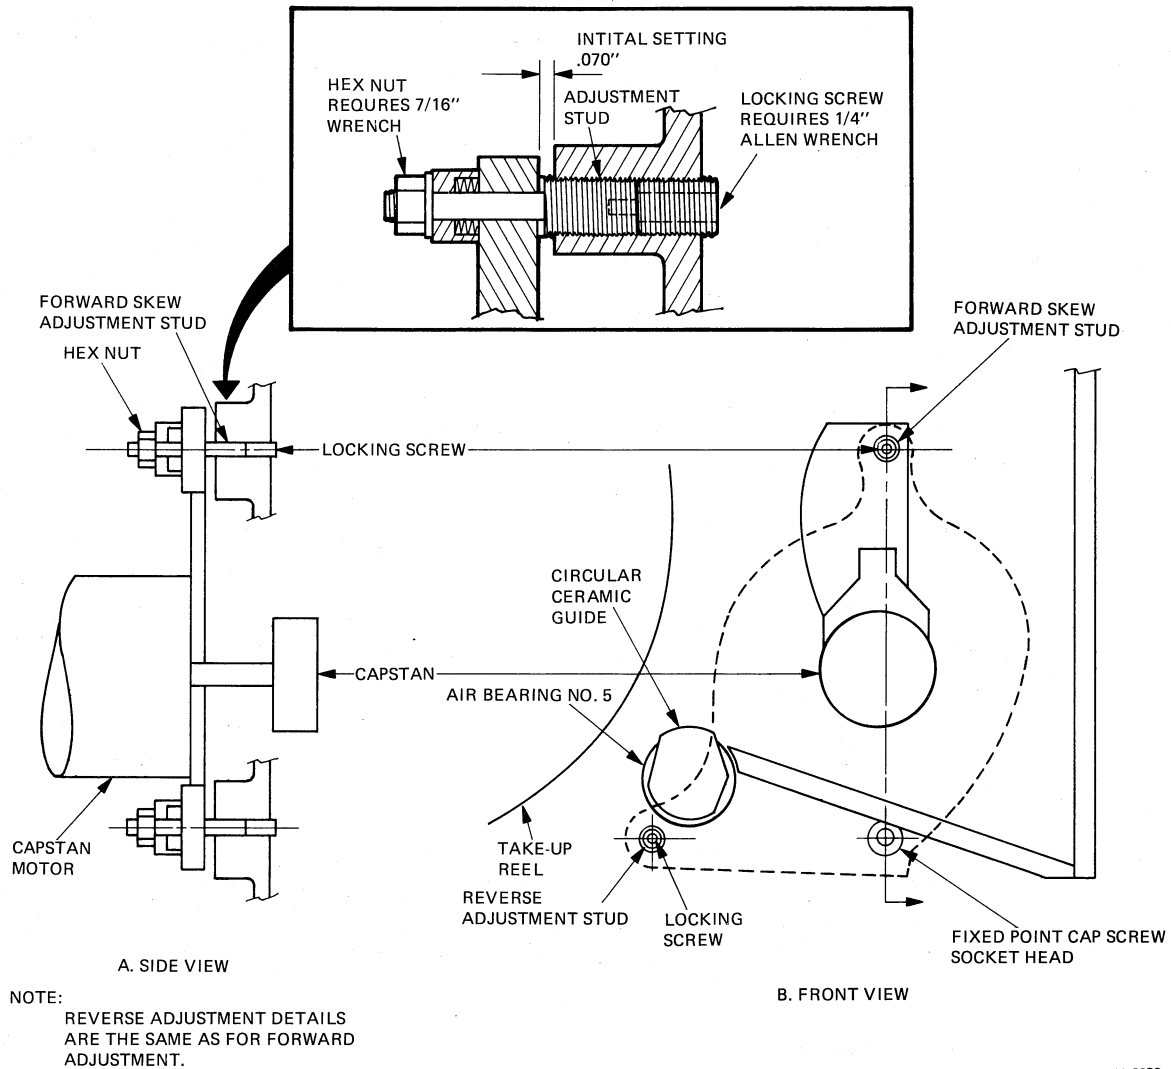

Figure 6-48 Capstan Motor Mounting
12. On the front of the base assembly, approximately 50.8 mm (2 in) down from the capstan, loosen the fixed point socket-head cap screw 1/4 turn (Figure 6-48).